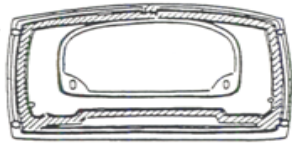

Fig. 10 Top (underside)
12. Put a 1-½" threaded stems into the two holes at the rear corners of the underside of the stove top. Apply stove cement to the grooves around the underside of the stove top, and to the rear edges of the stove sides (**Fig. 10**).